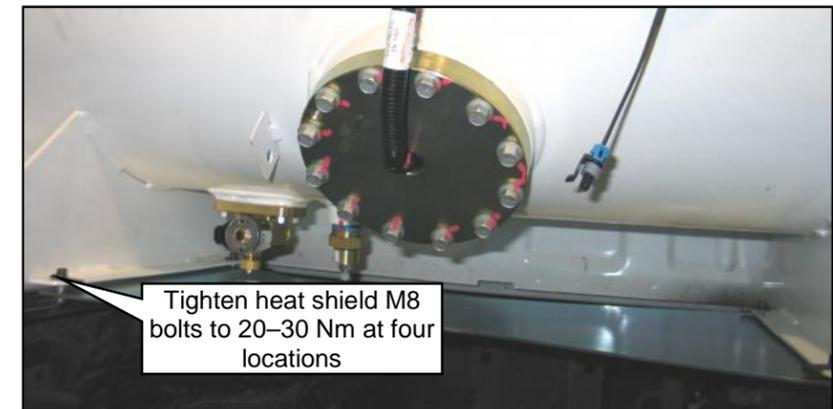

Figure 24.1 ■
9. Tighten the four heat shield bolts to specification. **Figure 24.1.**